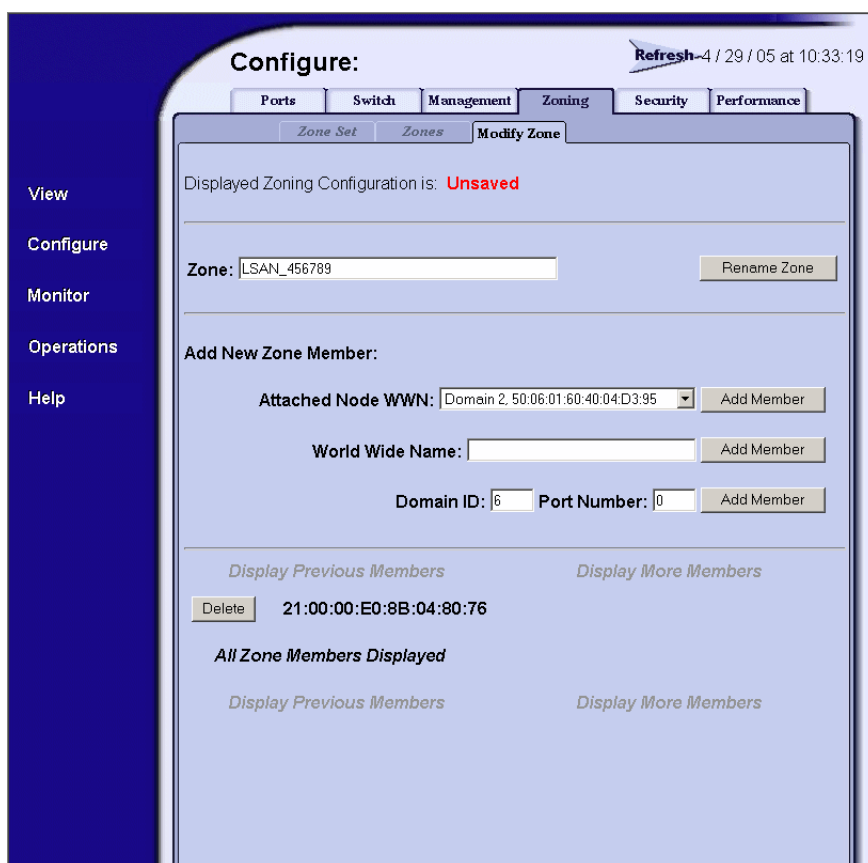

Figure 10 World Wide Name box
5. To add devices that are connected to the HP fabric, enter the WWN into the **World Wide Name** field and then click **Add Member** (see Figure 10).